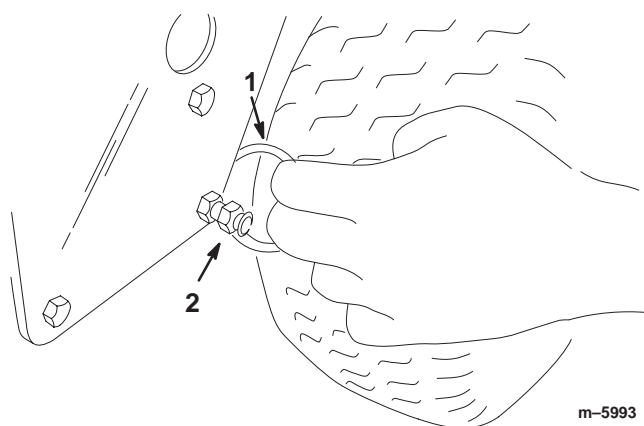

Figure 19
- Grasp split ring (Fig. 19) on right side of machine, pull ring and chain straight out from side of machine and hook ring over control shield bolt.